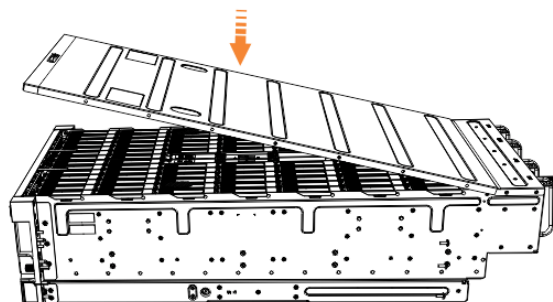

Figure 110. Aligning the top cover
6. Carefully lower the cover and ensure that it is aligned correctly with the back of the enclosure, as shown in Figure 110 on page 170.